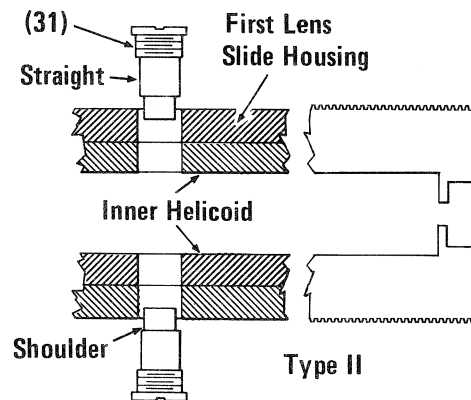

FIG. 4-22
In Type II the edges of the first lens cam slot, and the sides of slide screw (31) are straight. Fig. 4-22.
2. Type II Helicoid. Fig. 4-22.